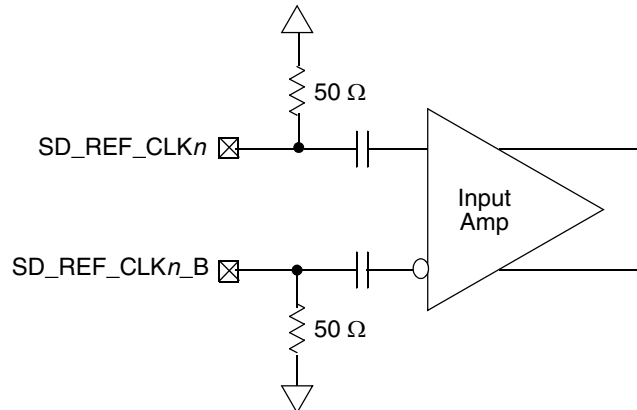

Figure 30. Receiver of SerDes Reference Clocks
- The SD_REF_CLKn and $SD_REF_CLKn_B$ are internally AC-coupled differential inputs as shown in Figure 30. Each differential clock input (SD_REF_CLKn or $SD_REF_CLKn_B$) has on-chip 50- Ω termination followed by on-chip AC-coupling.